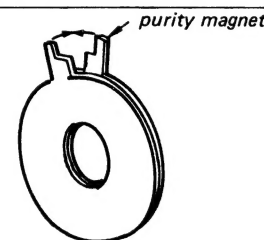

Fig. 3-2
3. Adjust purity magnet tabs as shown in Fig. 3-2.